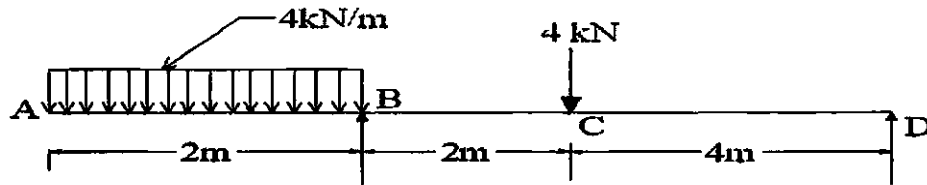

Fig. 6.1
6. (a) A beam ABCD, 8m long is overhanging by 2m and carries load as shown in Fig. 6.1. Draw S.F.D. and B.M.D. for the beam and locate the point of contraflexure. [6]